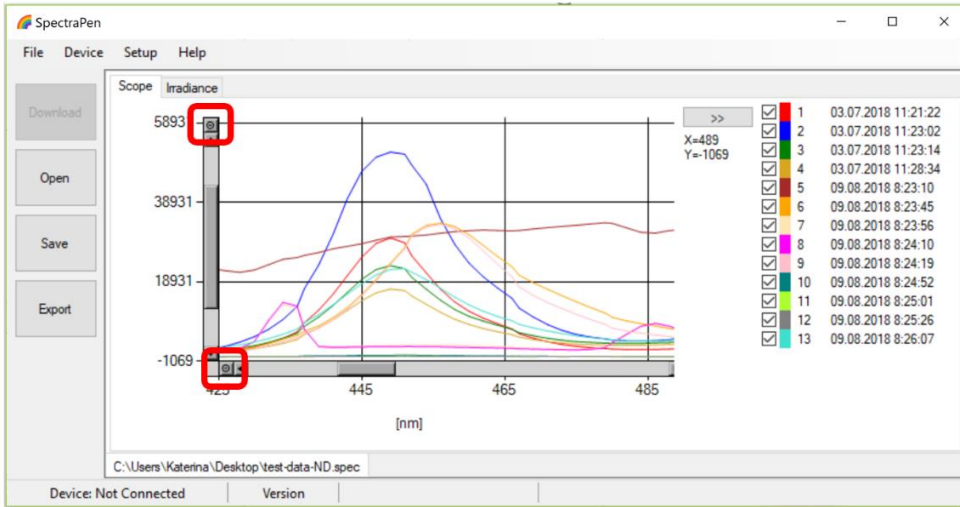

Fig. 32 Zoom function.
- To **zoom in on the data displayed in the graph** select an area of the displayed graph (Fig. 32). To reverse these steps and return to original display use minus icon in the corners of the zoom area marked with red rectangles in Fig. 32.